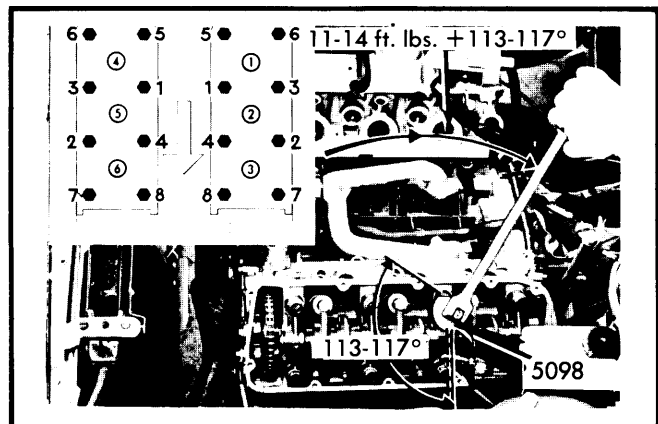

Fig. 3 Final Torquing of Cylinder Head Bolts After Running and Cooling Engine
2) Position rocker arm and shaft assembly and install cylinder head bolts. Tighten all bolts in sequence shown in Fig. 3 in three stages:
5. After engine is assembled, run at operating temperature for 15 minutes and cool for 30 minutes. Back off head bolts once more and torque to 11-14 ft. lbs. Then use protractor to torque bolts in sequence shown (Fig. 3) to 113-117°.